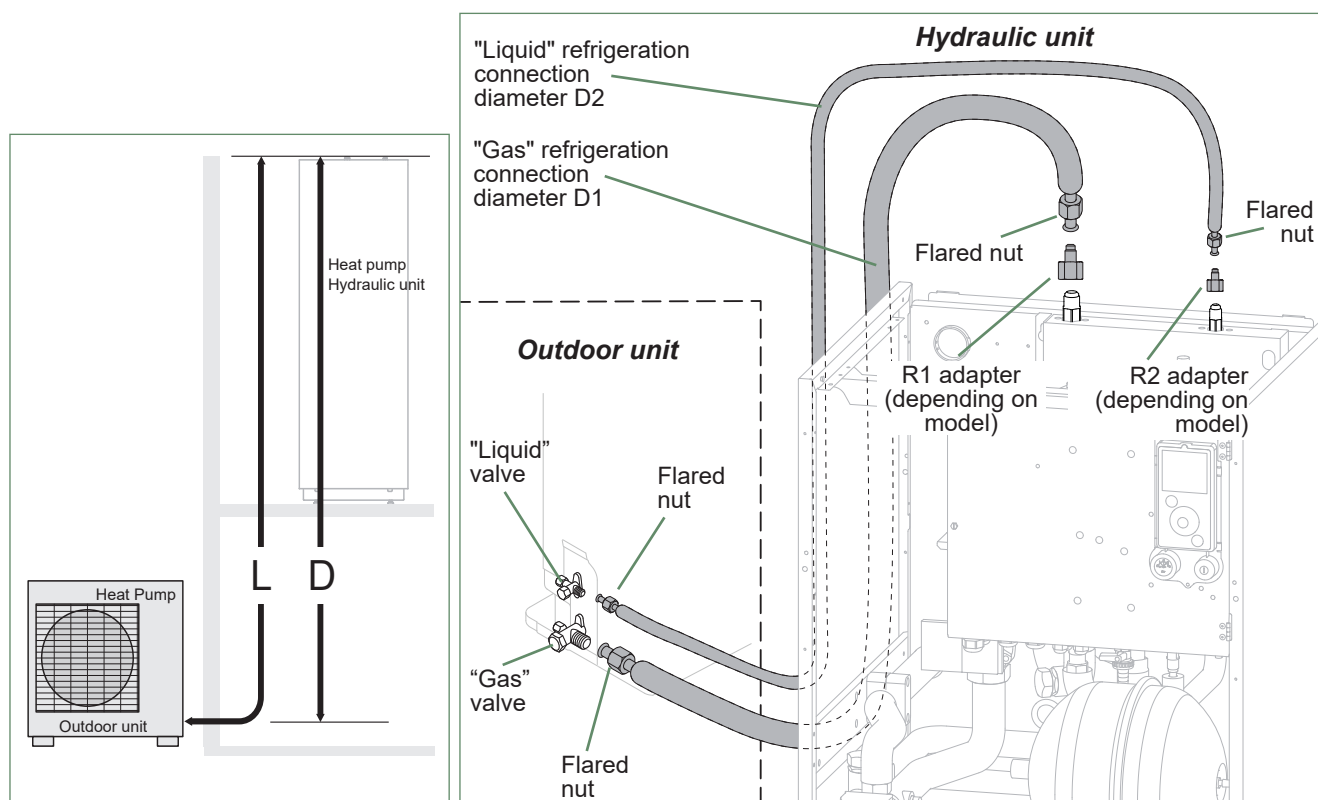

fig. 32 - Refrigeration connections (authorised diameters and lengths)
- Where necessary, connect an adapter (reducer) 1/4"- 3/8" or 1/2"- 5/8" (fig. 32).